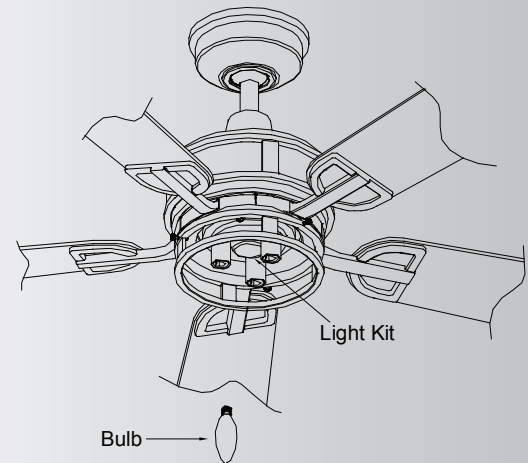

Fig. 24
Step 1. Install the 3, 40 Watt/B10 incandescent lamps (included). (Fig. 24)